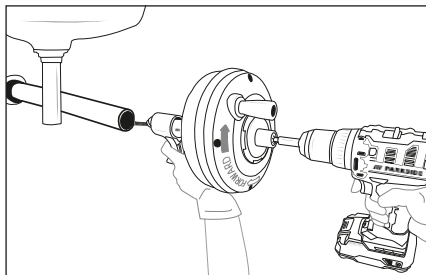

Fig. 3
- 8) Check that the appliance can be kept at a maximum distance of 10 cm from the drain opening. A greater distance from the drain opening increases the risk of the spiral **8** twisting or kinking. If the distance is greater, the drain opening must be extended with pipes and connections of the same size so that the appliance can be placed a maximum of 10 cm in front of the drain opening (see Fig. 3). If the spiral **8** is insufficiently supported, it can kink, twist and be damaged or injure the user.
- 7) Turn the drum **2** clockwise (visible by the arrow on the back of the drum **2**, see Fig. 3) and press the trigger **6**. Operating the trigger **6** guides the spiral **8** into the drain. You can also quickly advance and retract the spiral **8** by pulling it out of the drum **2** or pushing it in by hand.
- 9) If the spiral ❸ is blocked or stuck, do not turn the drum ❷ any further. If you continue to turn the drum ❷, the spiral ❸ may twist and kink. It may be necessary to remove the spiral ❸ from the blockage by turning the drum ❷ backwards. In some cases it may be possible to pull the spiral ❸ together with the blockage out of the drain by hand. In this case, make sure that you do not damage the spiral ❸. Remove the blockage from the spiral ❸ and push the spiral ❸ back into the drum ❷. Continue cleaning the drain as described above.
- 11) Continue cleaning the drain. Pay attention to how far the spiral ❸ has been inserted into the drain. Do not insert the spiral ❸ too far into a larger drain. The spiral ❸ can become knotted or cause damage.
- 12) Turn the drum ❷ anticlockwise as soon as the drain has been cleaned. Press the trigger ❹ to retract the spiral ❸. Proceed with caution, as the spiral ❸ can become jammed during retraction.
- 13) Release the trigger ❹ and stop turning the drum ❷ when the end of the spiral ❸ approaches the drain opening. Do not pull the end of the spiral ❸ out of the drain while it is rotating. The whipping end of the spiral ❸ can cause serious injuries.
- 15) Pull the remaining part of the spiral ❸ out of the drain by hand and push the spiral ❸ back into the drum ❷.